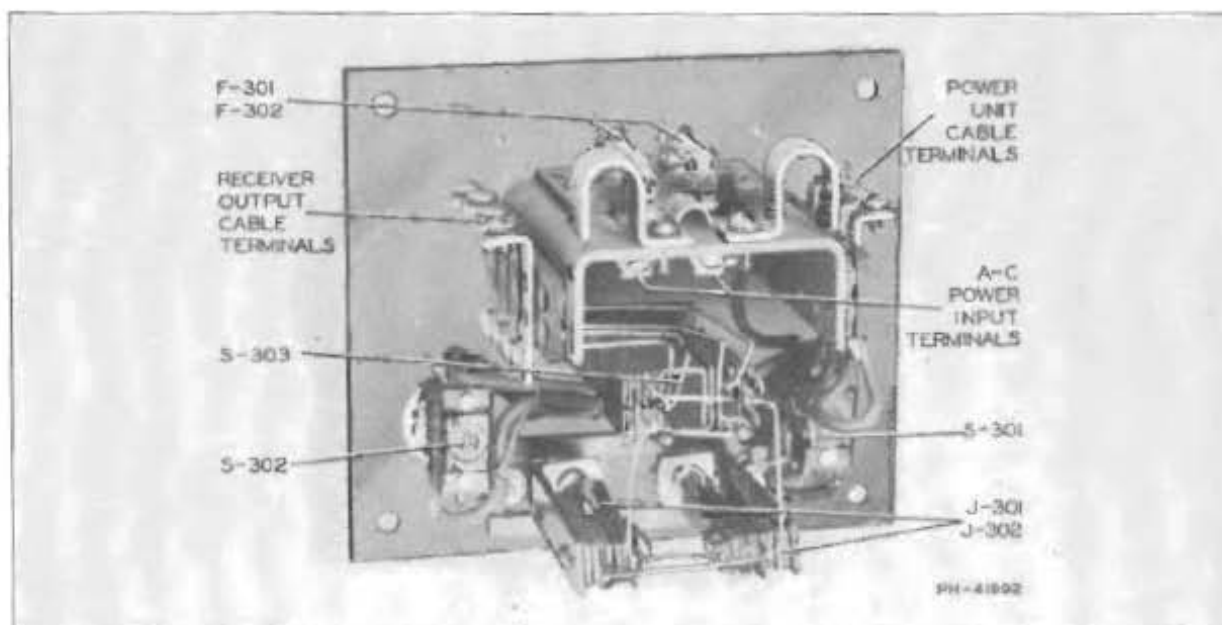

Figure 5—Control Unit CRV-23073 (Rear View of Panel)
- 8.4-1 The control unit contains output jacks, mixer switch, and power switches mounted on the panel (See Figure 5.) Fuses and terminal boards are mounted on a bracket secured to the panel. The case may be permanently mounted to any flat surface (see Figure 14).
- 9.6 Control Unit CRV-23073 (see Figure 5) is shown schematically in Figure 18. The use of this control unit makes possible the guarding of two channels simultaneously. The output of each receiver feeds into the control unit where a 3-position switch is provided which makes available, in the two headphone jacks, signals from either or both of the receivers. Two power switches also are provided on the control unit panel for controlling the power to each receiver independently. The a-c power supply feeds into the control unit and each side of the line is fused. The two supply cables connect to suitable terminals on the power units which terminals are arranged to omit from the circuit the switch and the fuses in the power unit.